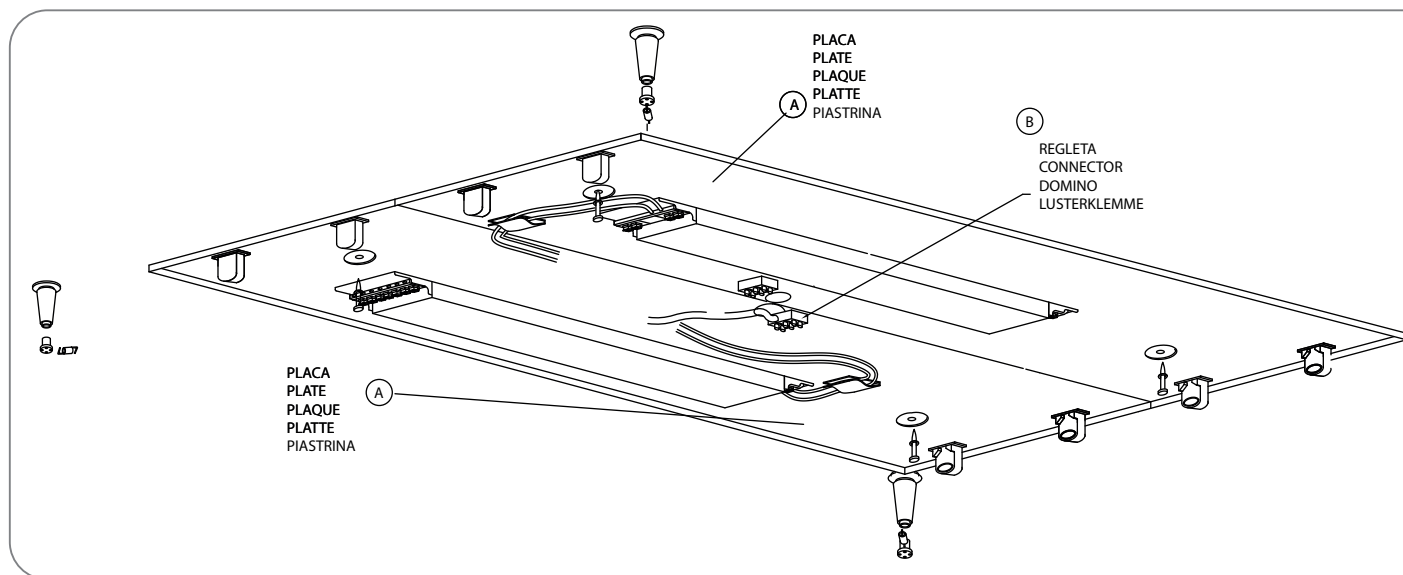

Fig.1
2. Conectar las dos placas A en las regletas B fig. 1.
2. Connect the plates A to jack strip B as indicated in fig. 1.
2. Collegare le 3 piastrine A ai morsetti B. Seguire le istruzioni della fig. 1.
2. Connecter les 2 plaques "A" aux dés "B" fig. 1